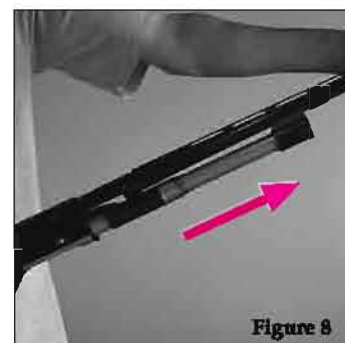

Figure 8
- 1) after removing the forend (see previous instructions), pull the barrel out of receiver and slide it off the magazine tube. (see figure 8)